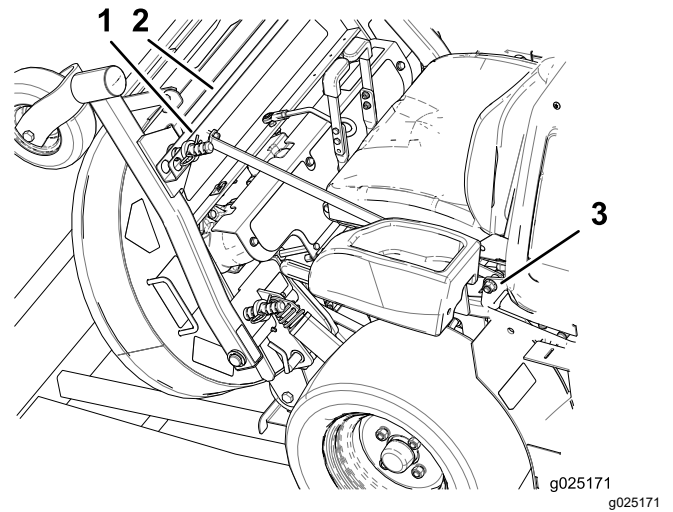

Figure 13
19. While supporting the mower deck, remove and discard the 2 side struts, mounting brackets, and their hardware on both sides of the seat (Figure 13).
20. Remove and discard the strut located between the front deck-support pins (Figure 13).